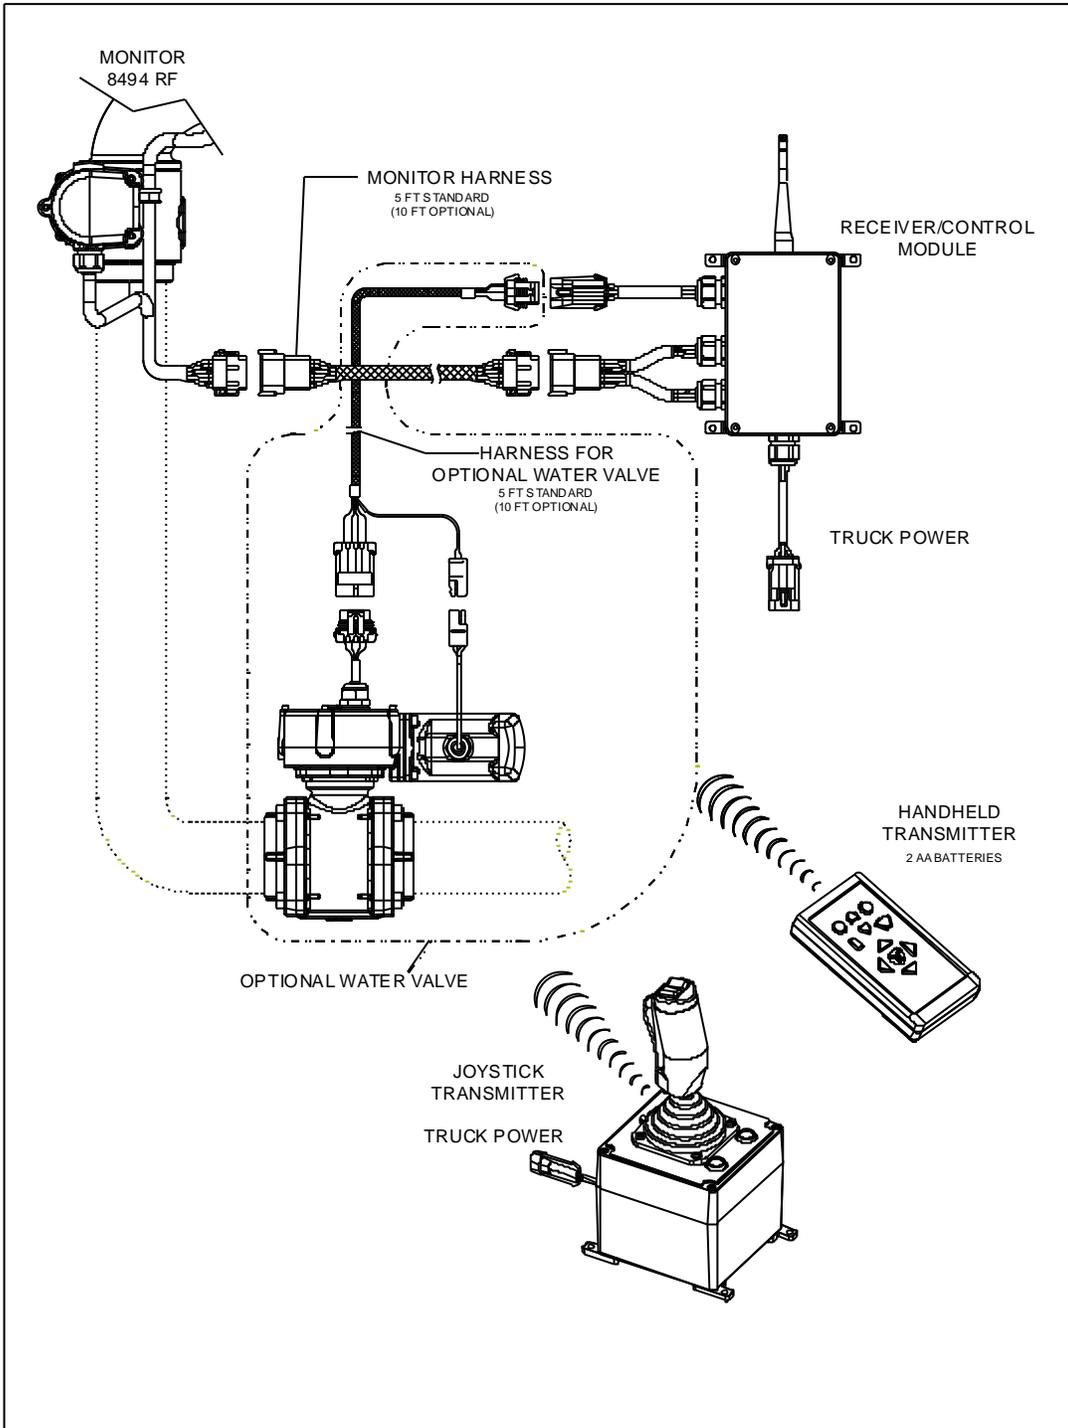

Figure 12
- 4) Reconnect the electrical connections according to Figure 12. Check all of the electrical connections to make sure they are tight. Allow enough slack in the monitor harness to permit travel to the limits allowed by the RF Receiver/Control Module without straining the wires.